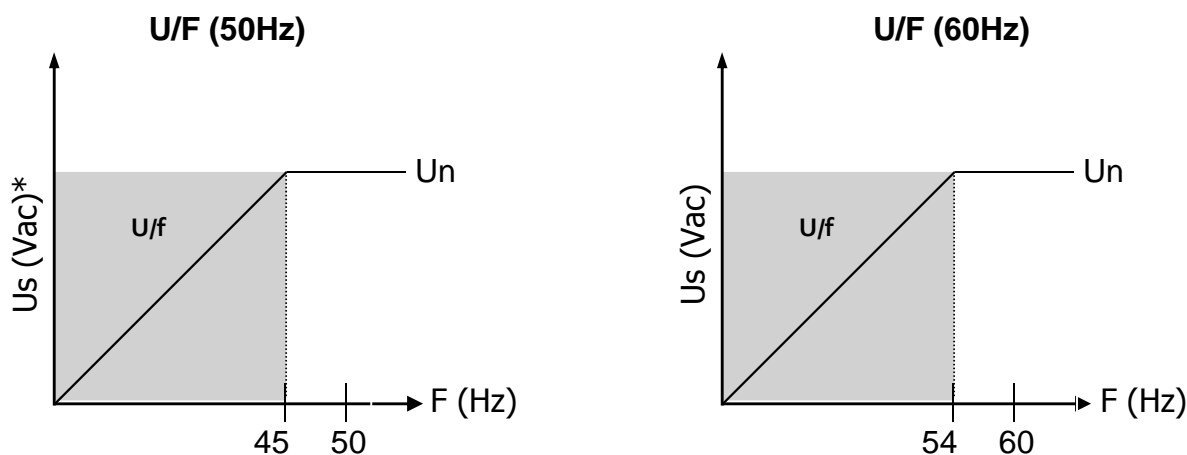

Figure 12.2: Operation of the protection U/F
The trimpot **U/F** determines the actuation point in U/F mode that can be from the rated frequency ( $F_n$ ) to  $1/3$  of  $F_n$ , which value comes adjusted by the factory in 10% below  $F_n$ . For operation in 60Hz it's adjusted for 54Hz and for operation in 50Hz it's adjusted for 45Hz (see Figure 12.2), this value can be changed according to the needs of each application.
1. Don't let the U/F protection opened. The configuration must be done according Figure 12.2 to avoid problems when shutting down. The frequency limited by U/F is the frequency of the waveform that is at the power supply input of the regulator and not at the sensing input.